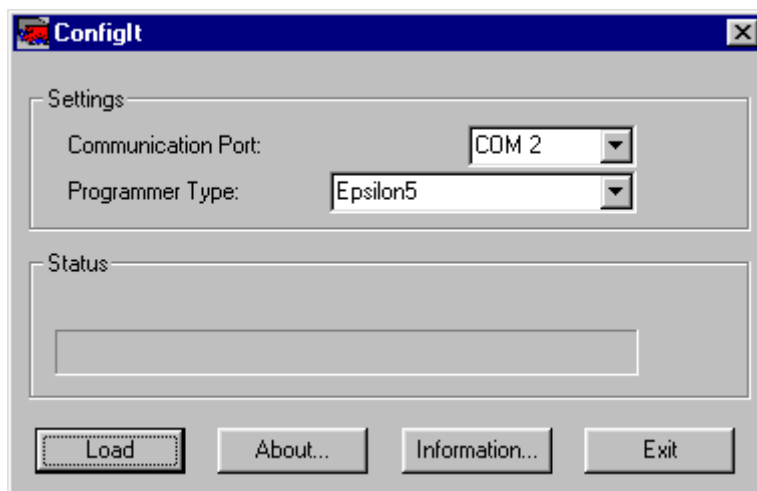

Figure 5 ConfigIt user interface.
1. Start *ConfigIt*. The user interface as the one depicted in Figure 5 will show up.
4. Start *ConfigIt*. The user interface window like the one depicted in Figure 5 will show up.